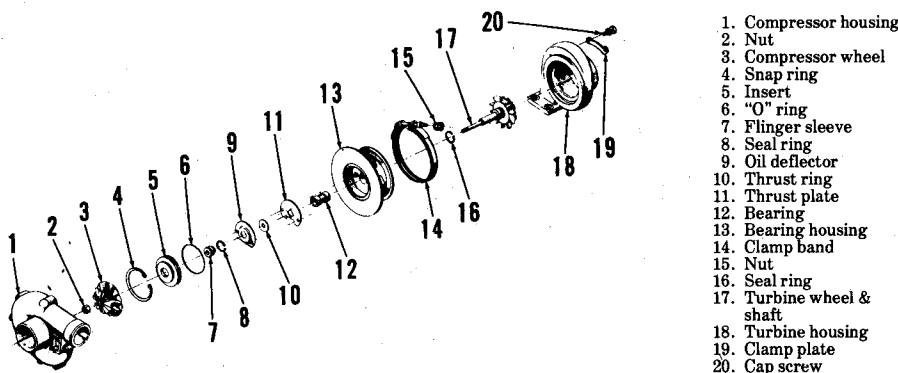
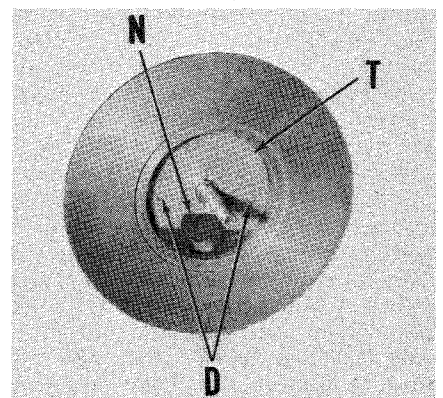

Fig. 115—Exploded view of Schwitzer Model 3LD turbocharger used on 9000, 9600, 9700 tractors.
Fig. 116—Thrust plate (T) is installed on dowel pins (D) with bronze face up. Note cut-out (N) in thrust plate for lip of oil deflector.
134. 9000, 9600, TW-20 and TW-30 models are equipped with a turbocharger. These models will have either a Schwitzer Model 3LD or AiResearch turbocharger. Refer to Figs. 115 or 117 for identification. Major components consist of turbine, turbine housing, compressor, compressor housing and bearing housing. Model TW-30 is equipped with an intercooler as noted in paragraph 142.
138. **OVERHAUL (Schwitzer).** Remove turbocharger as outlined in paragraph 137. Before disassembling, mark relative positions of compressor cover, bearing housing and turbine housing to aid in reassembly. Remove compressor cover and note that bolts are of a special design and same type must be used if the bolts are to be renewed. Remove clamp band (14—Fig. 115) and separate core assembly from turbine housing. It may be necessary to tap lightly on turbine housing to dislodge core assembly. The turbine wheel and shaft can be conveniently held by mounting a 5/8-inch 12-point box end wrench in a vise, so that turbine shaft can be inserted into wrench, with compressor wheel up. Remove compressor wheel retaining nut (2) being careful not to apply pressure to turbine or
To assemble, refer to exploded view in Fig. 115. Install copper-coated seal ring (16) on turbine wheel. Be sure correct sealing ring is installed. Lubricate sealing ring and turbine shaft with engine oil and install in bearing housing, being careful not to damage seal ring recess in bearing housing or bearing bore. Lubricate bearing (12) and install in bearing housing or turbine wheel shaft. If original bearing is being used, it should be reinstalled in its original position. Install thrust plate (11) on dowel pins with bronze face up as shown in Fig. 116. Lubricate and install thrust ring (10—Fig. 115). Install oil deflector (9) on dowel pins so that lip is in towards housing. Install seal ring (8) on flinger sleeve (7) and install flinger sleeve and seal ring in insert (5) so that flat side of sleeve (7) is flush with flat side of insert (5). Lubricate "O" ring and place in groove of insert (5). Install insert (5) in bearing housing with flat side out and press into counterbore until snap ring groove in bearing housing is clear. Be sure flinger sleeve remains in place when installing insert. Install snap ring (4) with beveled side out, and place compressor wheel on turbine wheel shaft. Coat the threads of a new locknut with graphite grease and install locknut on turbine wheel shaft and tighten to 156